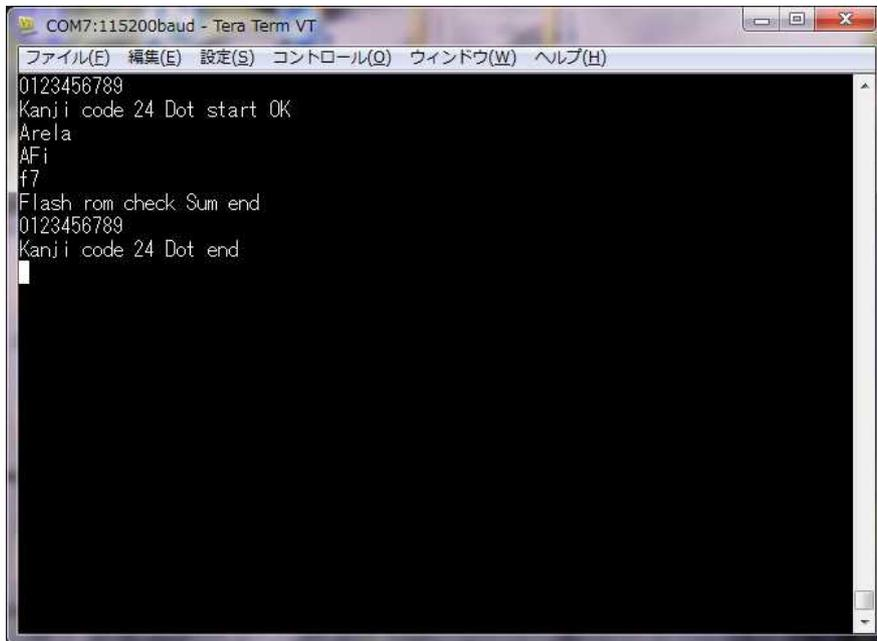

Fig. 5-4
- (10) Finally, input the characters “0123456789,” as shown in Fig. 5-4. Then, press the return key to transmit the characters.